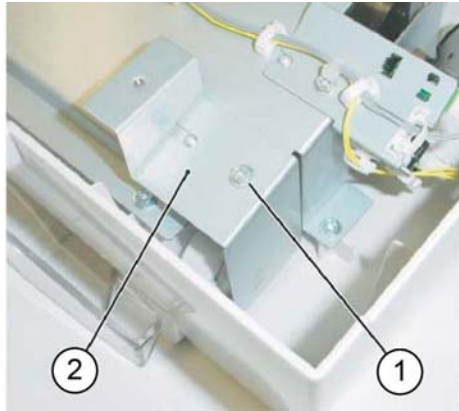

Figure 2 Front bracket removal
6. Remove the front bracket, **Figure 2:**
- a. Remove the screw (1).
- b. Remove the bracket (2).